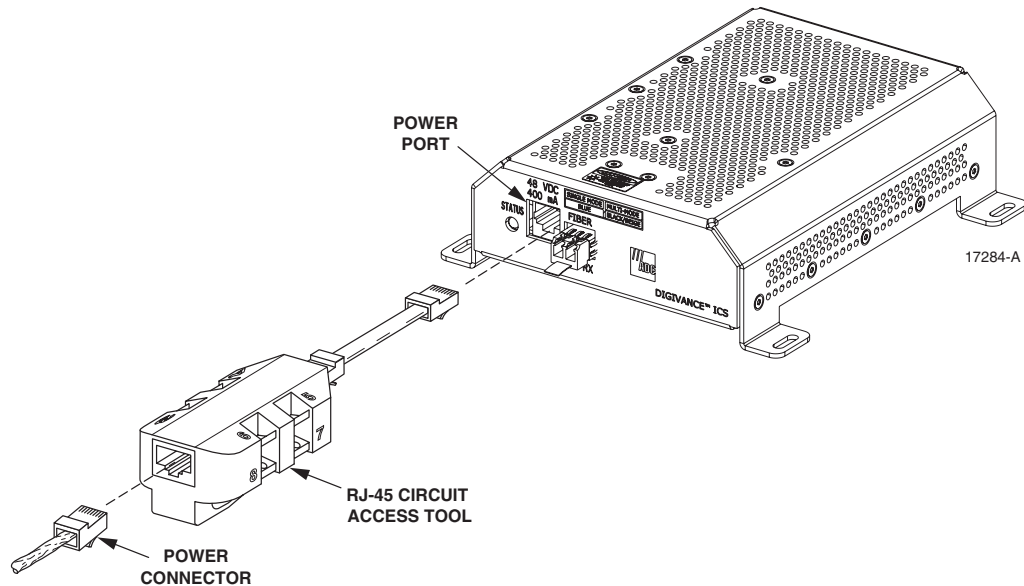

Figure 28. Connect RJ-45 Circuit Access Tool
2. Connect the RJ-45 circuit access tool to the DRU as shown in Figure 28.